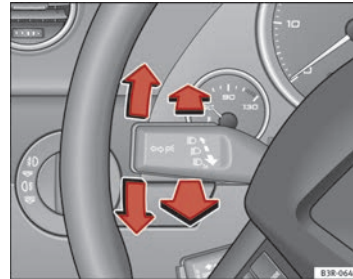

Fig. 91 Turn signal and main beam headlight lever
- Move the lever all the way up to indicate right or all the way down to indicate left  $\Rightarrow$  Fig. 91.